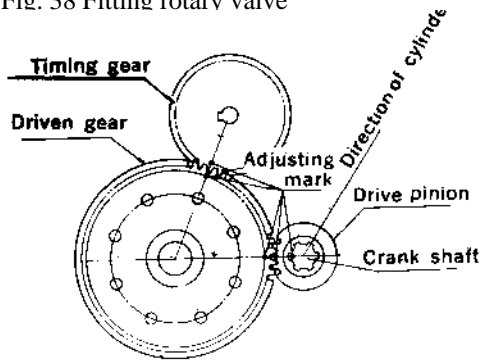

Fig. 39 Setting the timing marks
10. Set the timing marks on the timing gear, driven gear and pinion gear as shown in Fig. 39.